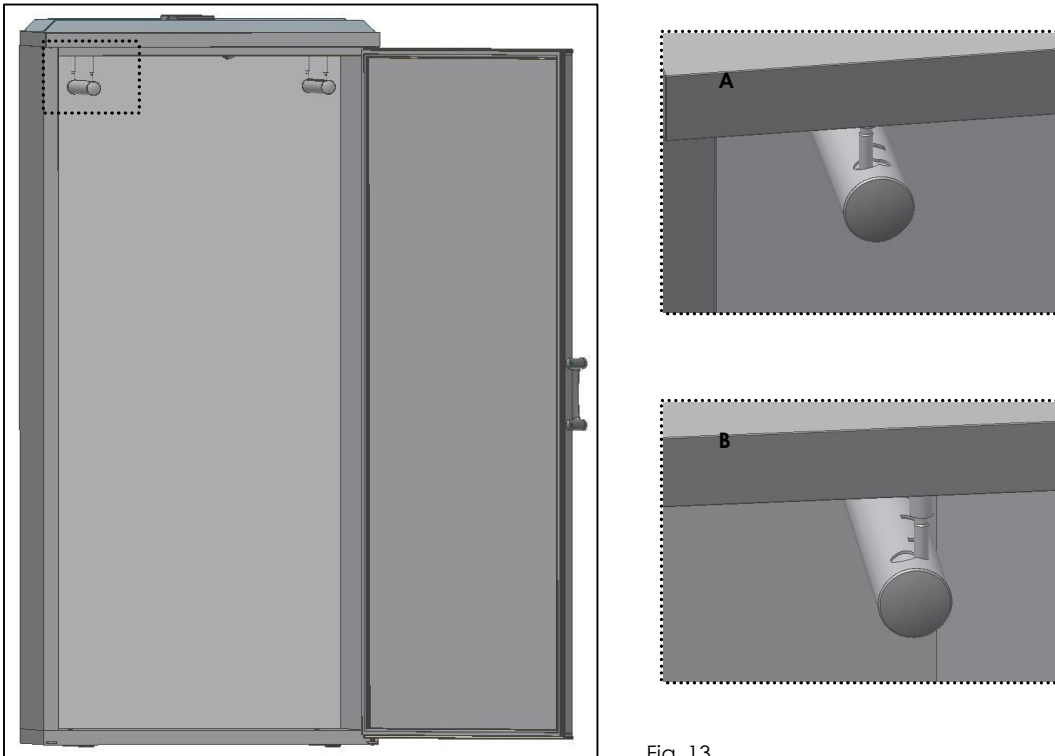

Fig. 13
- Fix **the side pipes** into the supports (A) and turn it to the final position (B) (Fig.13);